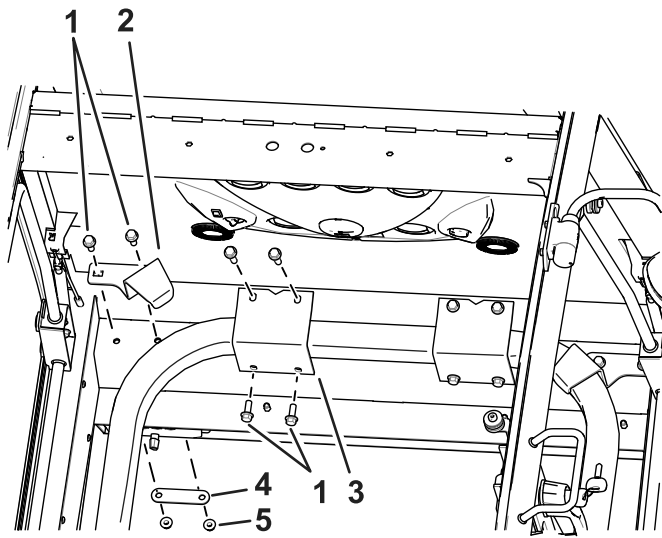

Figure 15
- 14. Loosely install the ROPS mounts to secure the cab to the roll bar on the machine (Figure 15).
18. Torque all nuts and bolts attaching the cab to the roll bar to 127 to 157 N·m (94 to 116 ft-lb). Refer to Figure 15